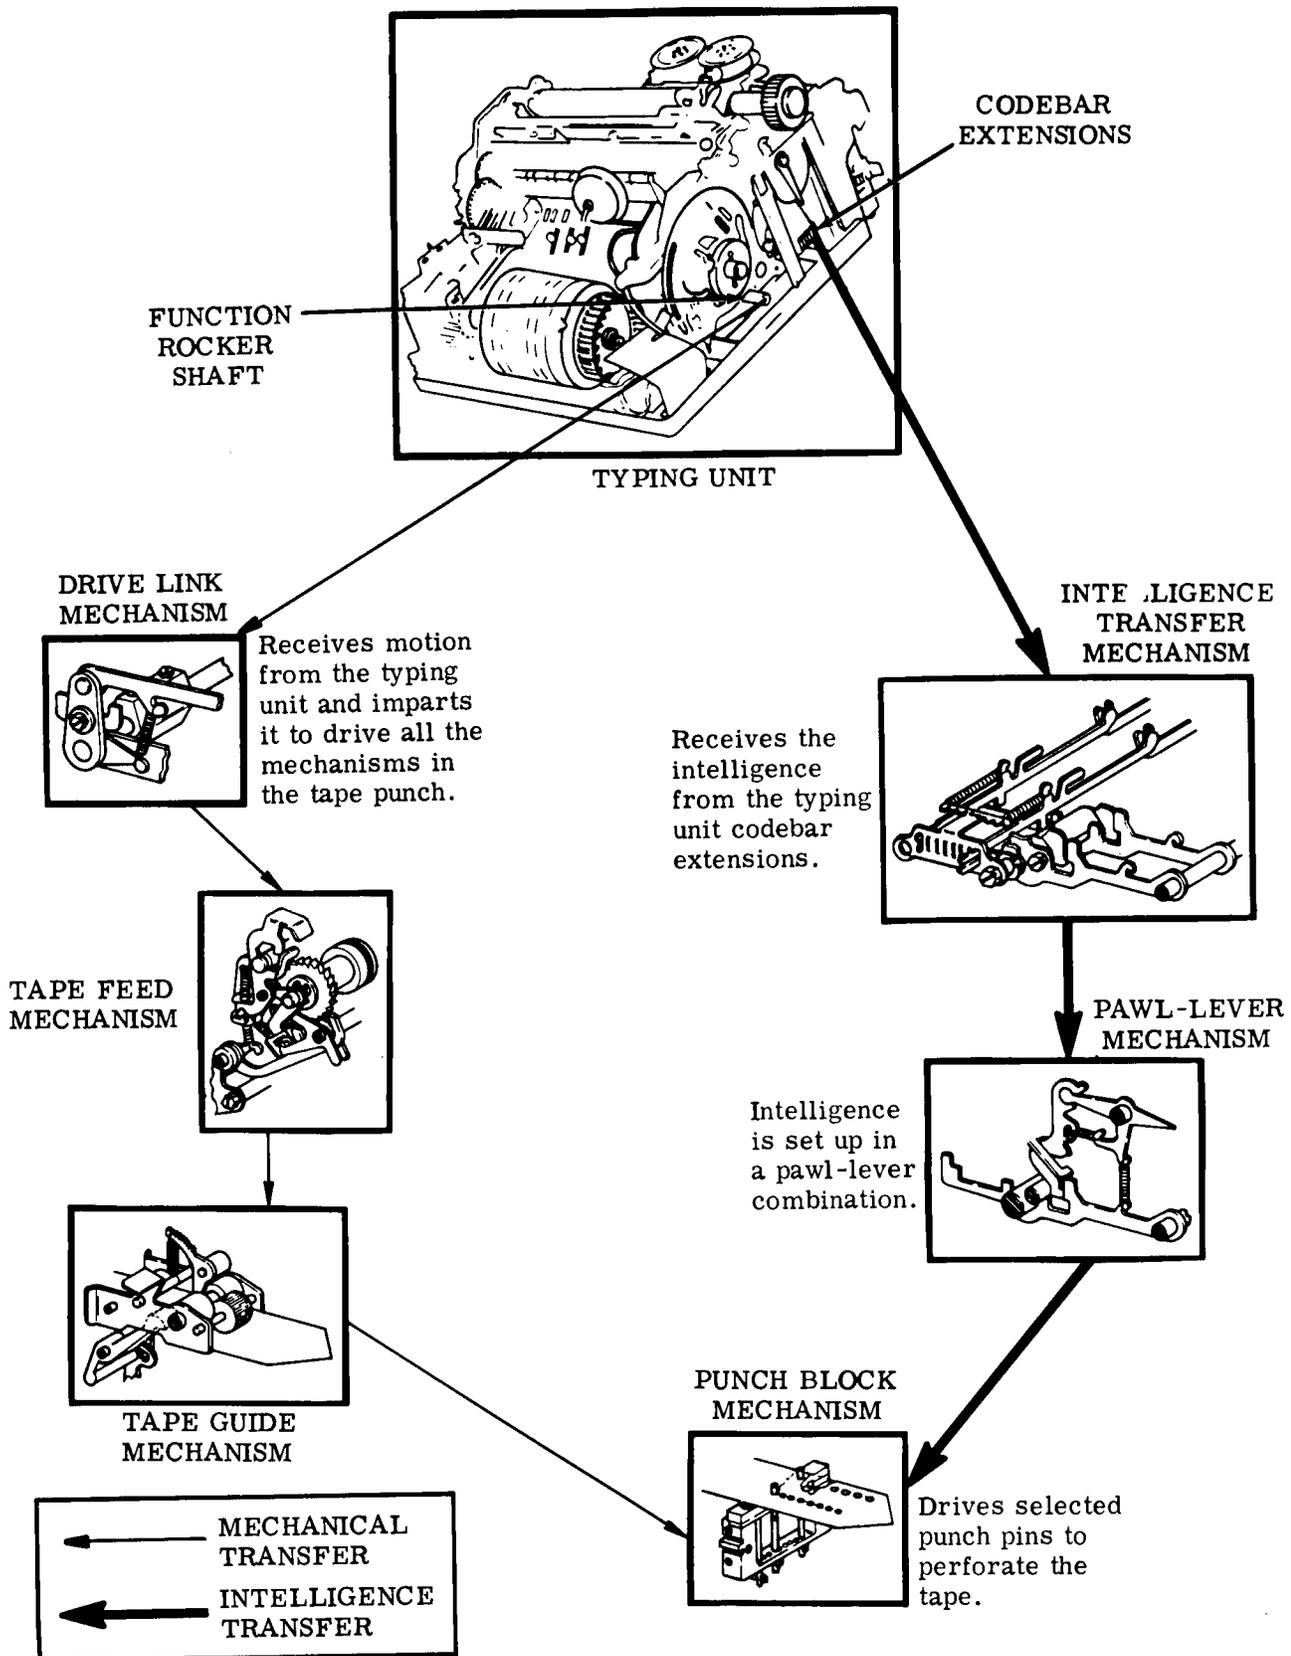

Figure 2 - Functional Diagram of the Tape Punch and Major Mechanisms
3.03 The tape punch receives its intelligence from the typing unit codebars. Pulses received by the selector mechanism are converted into a mechanical arrangement of the codebars. Codebar extensions, attached to the codebars, present this arrangement to mechanisms in the tape punch which, in turn, translate it into perforations in the tape. Briefly, the drive mechanism imparts the motion received from the rocker shaft to advance, guide, punch, and backspace the tape. The intelligence transfer mechanism duplicates the coded arrangement of the typing unit codebars by setting up punch pins which will rise to perforate the tape (Figure 2).